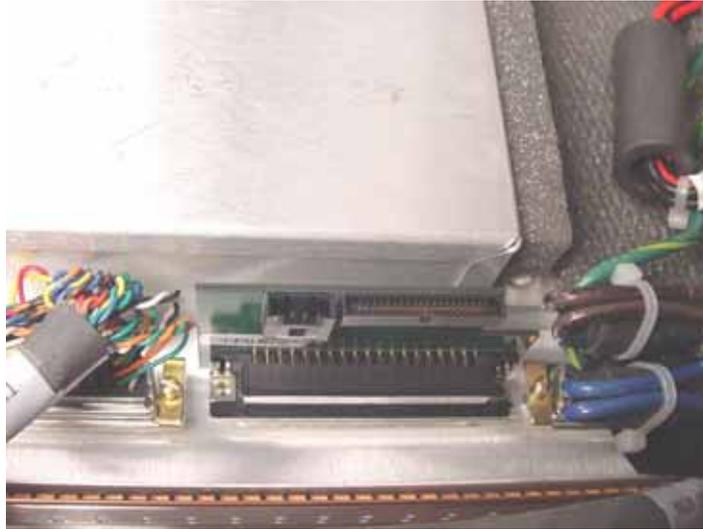

Figure 9-103: Installing the Adapter PCB
18. Install the adapter PCB onto the main PCB. Verify the adapter PCB is fully seated. Insert one screw with lock washer through the adapter PCB. Tighten to 4.0 ± 1 in-lbs. (Figure 9-103).